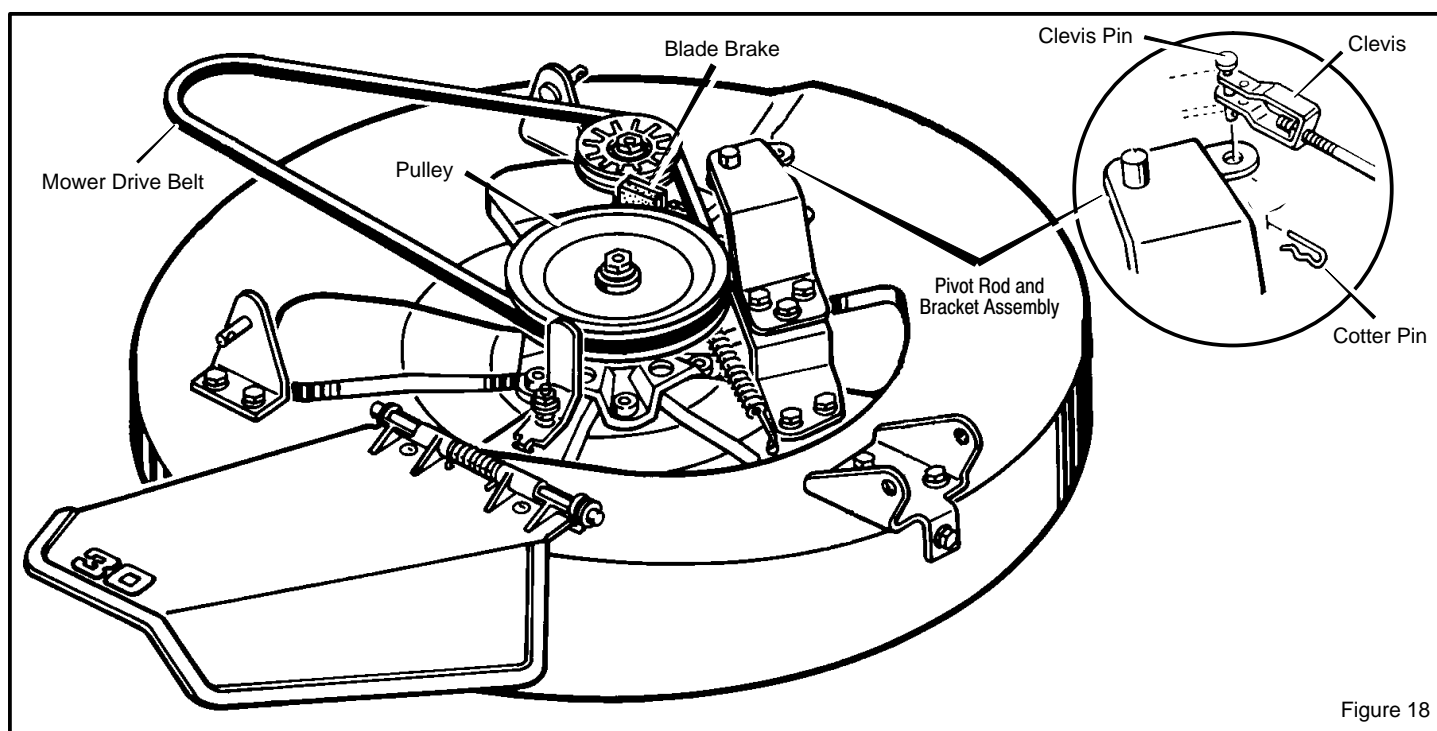

Figure 18
6. If an adjustment is needed, disconnect the **clevis** from the **pivot rod and bracket assembly** (Figure 18). Turn the **clevis** clockwise to decrease the free movement of the **attachment clutch**. Turn the **clevis** counterclockwise to increase the free movement.